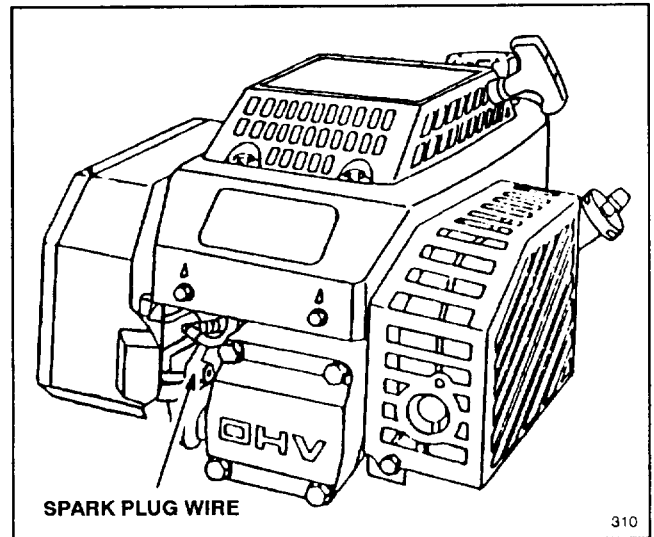

Figure 19
1. Stop engine and pull wire off spark plug (Fig. 19). Remove key from switch on electric start model.
1. Stop engine and wait for all moving parts to stop. Pull wire off spark plug (Fig. 19). Remove key from switch on electric start model.